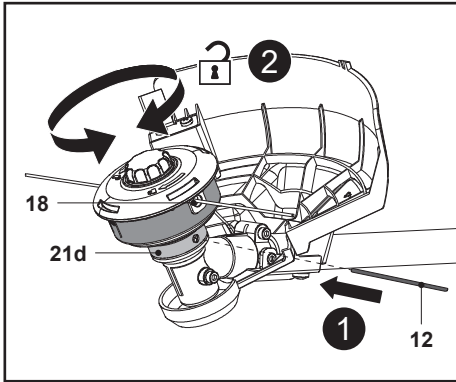

Fig. 25
1. Turn the product upside down to access the trimmer head (18).
2. Rotate the trimmer head (18) until the hole on the backing flange (21d) is aligned with the notch in the gear head.
3. Insert the spindle lock rod (12) into the hole to lock the spindle (21e) (Fig. 25, step 1).
4. Loosen the trimmer head (18) clockwise (Fig. 25, step 2) by hand and remove it from the spindle (21e).